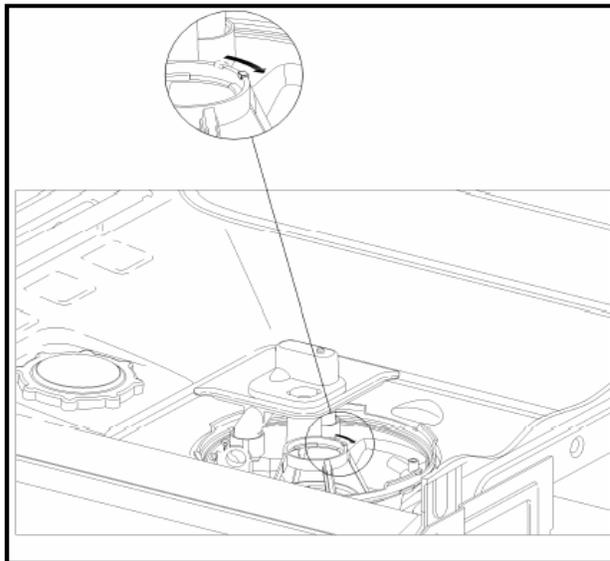

Figure 5-35: Micro Fine Filter Installation
2. Turn the micro fine filter clockwise as far as possible, Fig. 5-35.